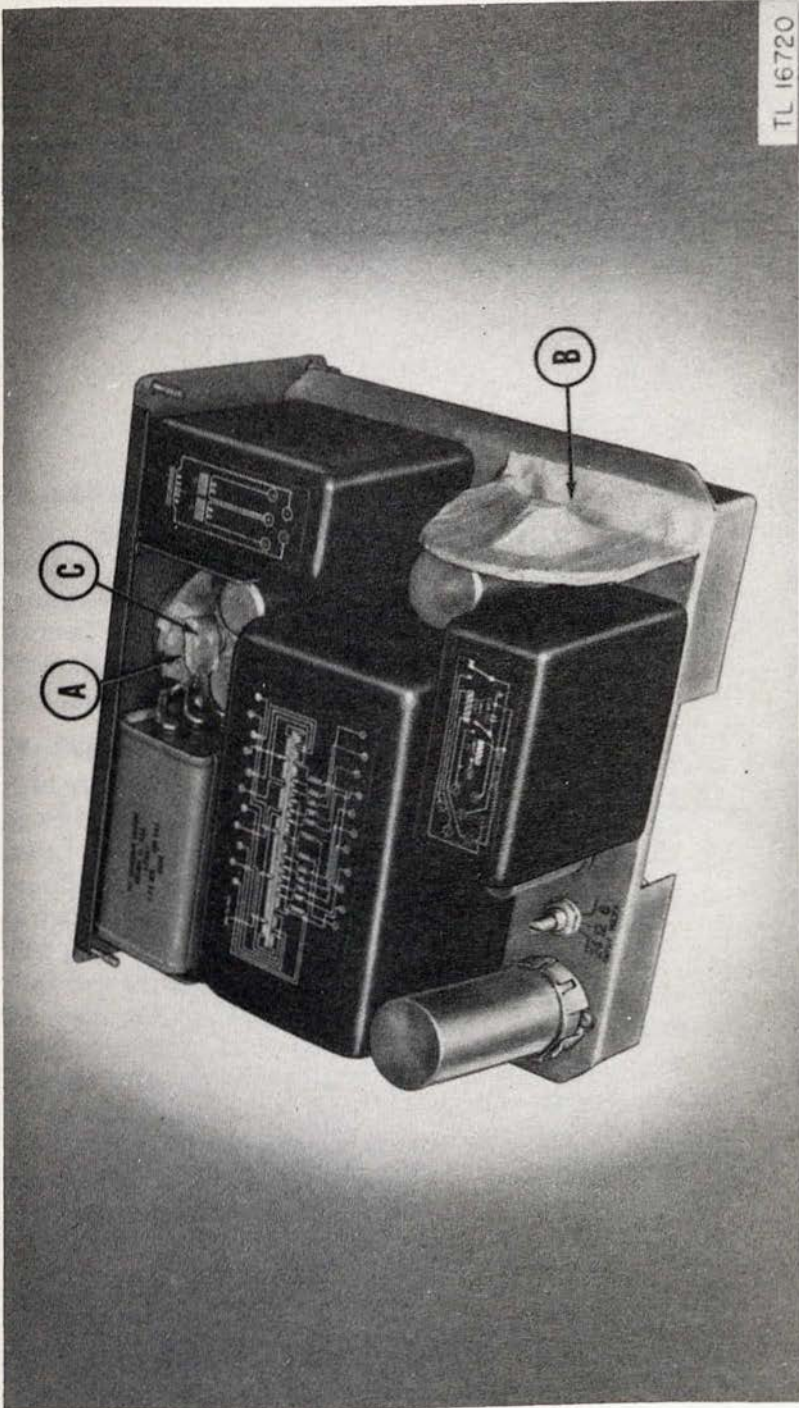

Figure 9. Vibrator Power Supply PP-114/VRC-3, top view of chassis, masked.
(4) Contacts of socket (item A, fig. 9).
(5) Selenium rectifier (item B, fig. 9).
(6) Tube-clamp wingnut and bolt (item C, fig. 9).